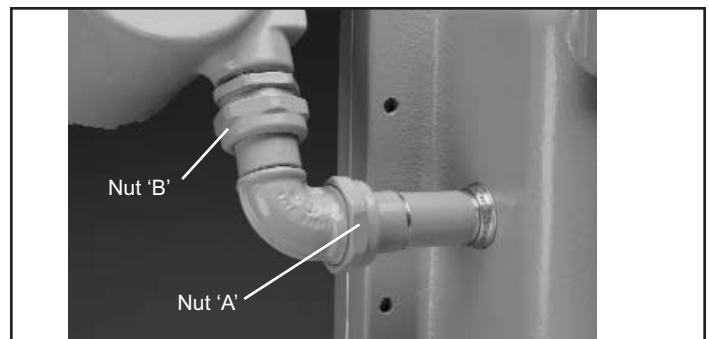

Figure 2. EVLA Lighting Fixture
5. Adjust EVLA12 emergency light(s) for the desired direction of illumination & lock into position using 1-5/8" open-ended wrench & torquing to 58 lb.-ft. See Figure 2.